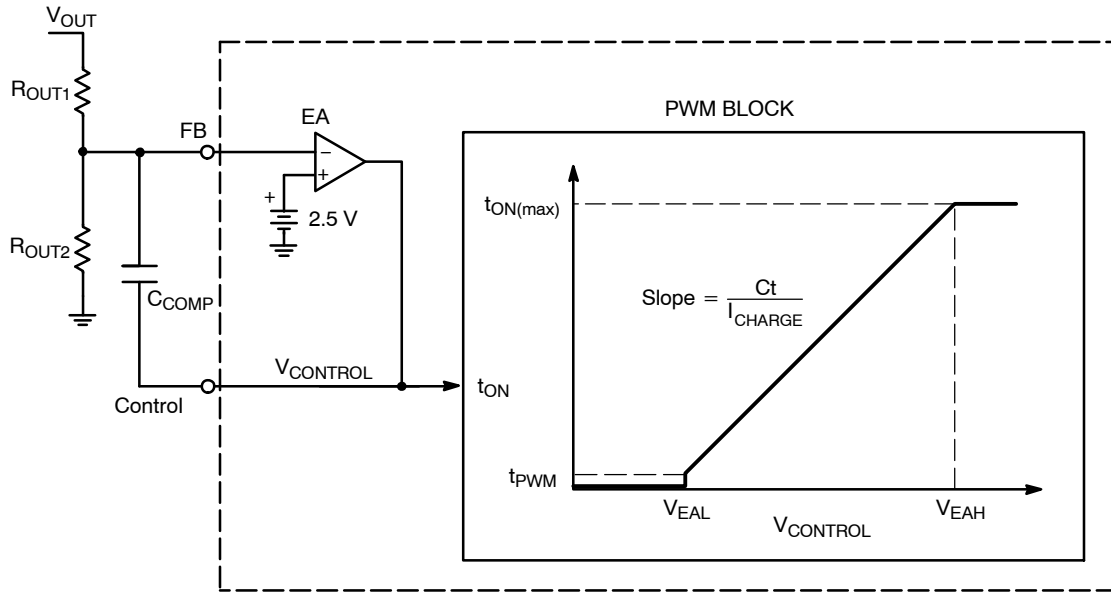

Figure 25. Error Amplifier and On Time Regulation Circuits
The NCP1606 is configured to regulate the boost output voltage based on its built in error amplifier (EA). The error amplifier’s negative terminal is pinned out to FB, the positive terminal is tied to a $2.5\text{ V} \pm 1.6\%$ reference, and the output is pinned out to Control (Figure 25).